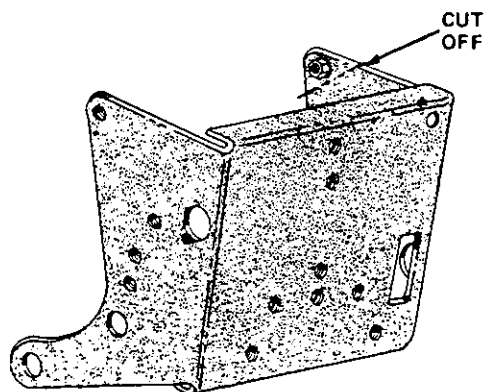

FIGURE 16—Model 482, 580 (IH-582 Special) and 1604 only.
- Model 480, 580 (IH-582 Special) and 1604 tractors only:** Cut 1-1/2" to 2" off the upper right hand "ear" of the three point hitch plate so that it will clear the clutching spring mounting bolt. See figure 16.